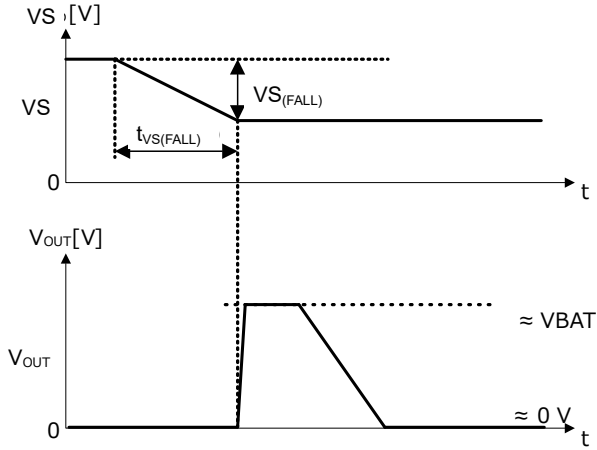
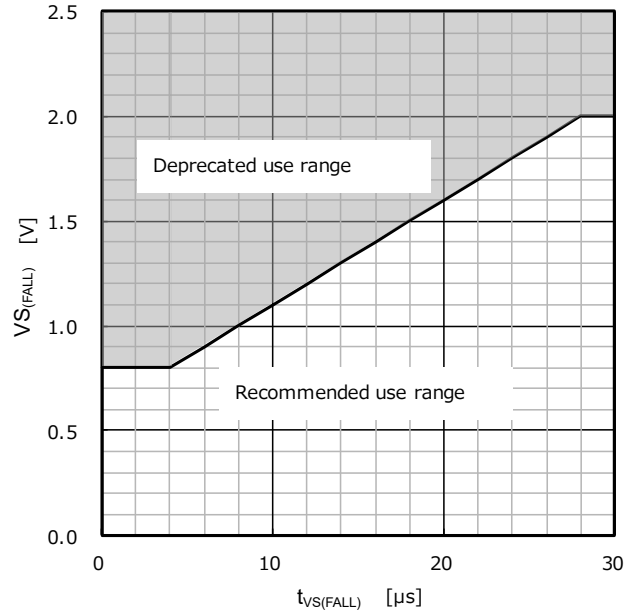

Figure 67. Output OFF operation when power supply fluctuates sharply
Figure 68. Recommended use range
If the voltage of the power supply pin (VS) falls sharply, the output pin (OUT) may temporarily turn off as shown in Figure 67. If the power supply pin is expected to fall sharply, take measures such as inserting a capacitor between the power supply pin and the ground pin so that it falls within the recommended usage range shown in Figure 68.